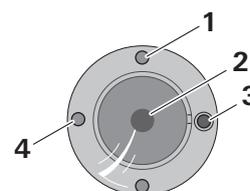

Fig. 16
The IR receiver (Fig. 16) has the following display and control panels:
- ▶ Press the ON/OFF button on the IR receiver (Fig. 16) for one second, e.g. with a pen. The green LED on the IR receiver flashes briefly. The air conditioning system is switched off.